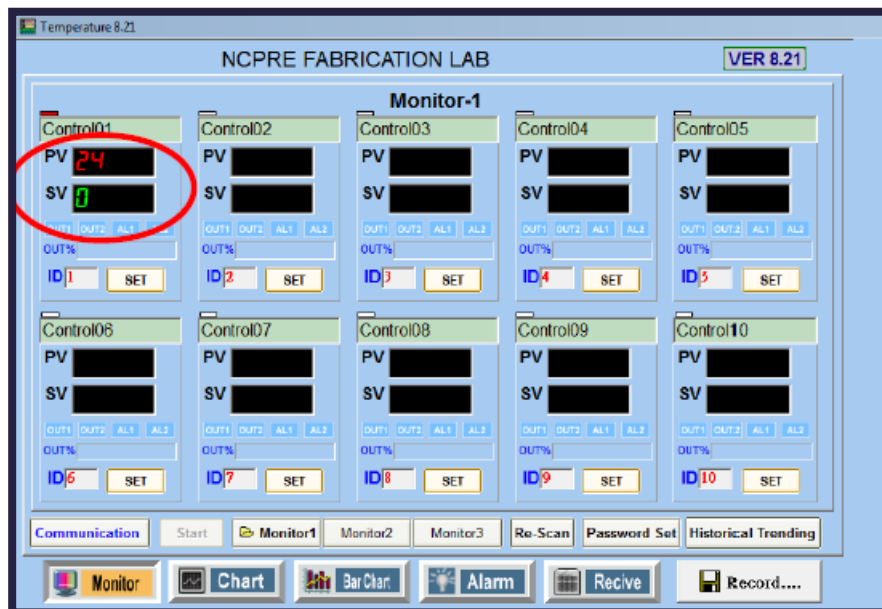

Figure. 19
8. Once the communication is established between the hardware and the software the PV(Present Value) and SV (Set value) of the temperatures will appear as follows (Figure. 19).